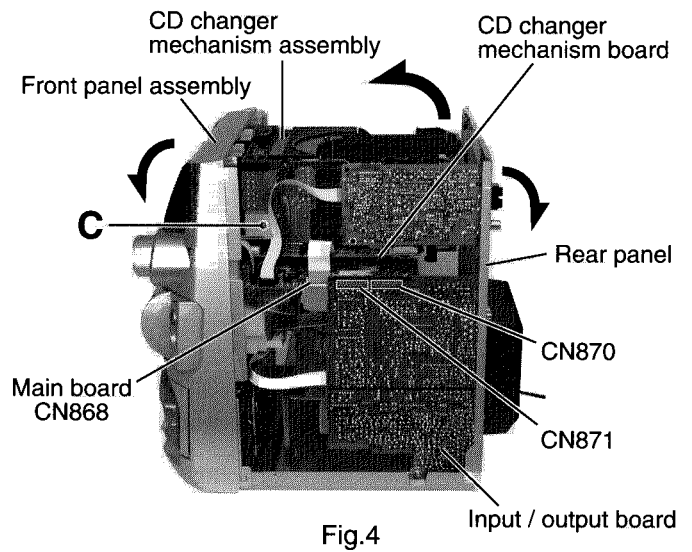

Fig.4
■ Removing the CD changer mechanism assembly (See Fig.4 to 6)